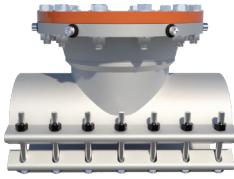

Figure 1
D.2) Inspect the line stop fitting to ensure no damage has occurred during shipment or storage (see Figure 1). Locate and remove completion plug and box containing stainless steel mounting hardware. Store in a clean, safe location.